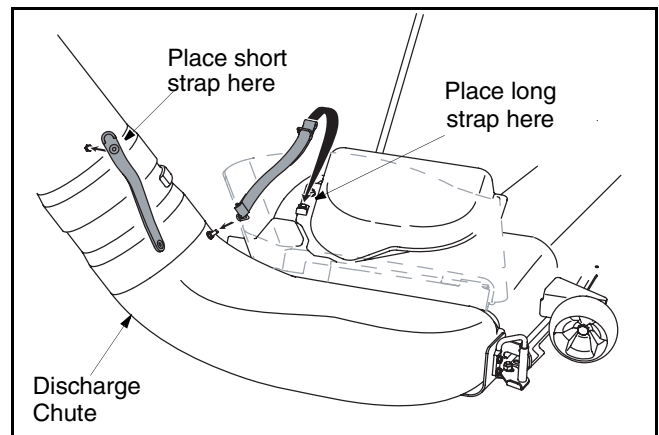

**Figure 8**
- Insert the hinge pin of the discharge chute into the tube on the chute stop bracket. See Figure 8.